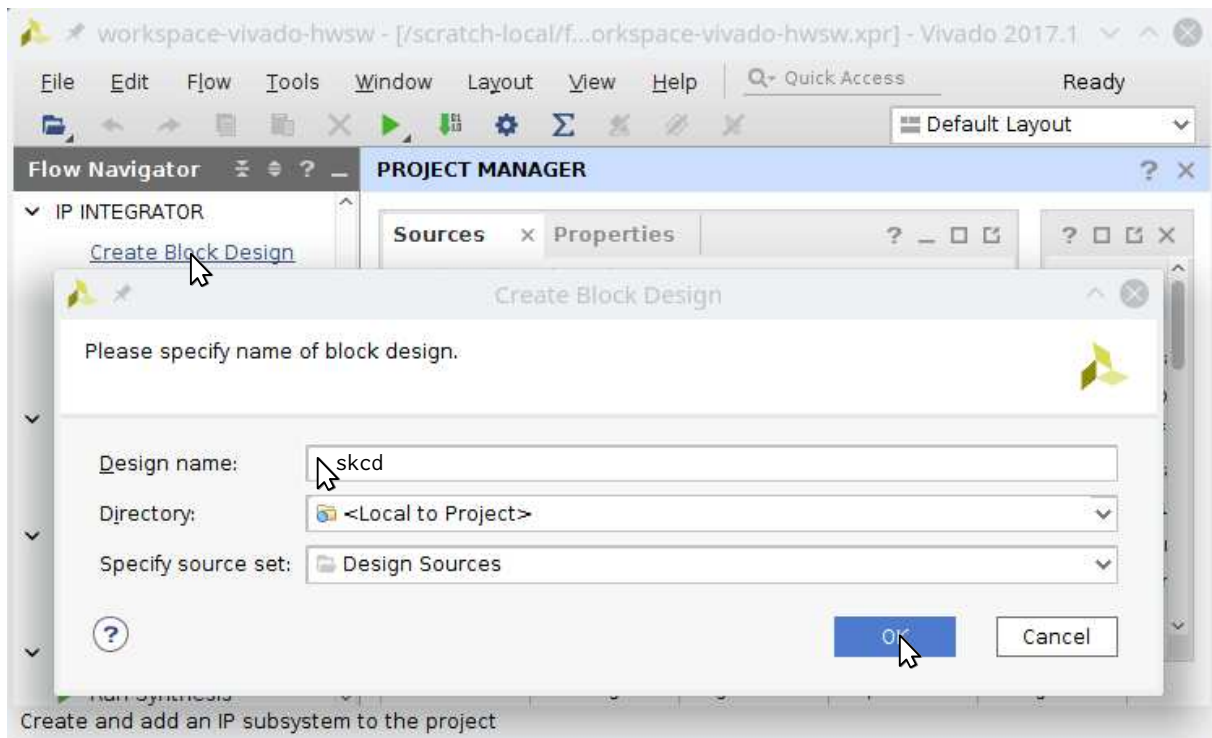

Figure 27: Create the skcd block design
- m) Then, create the skcd block design (see Figure 27).